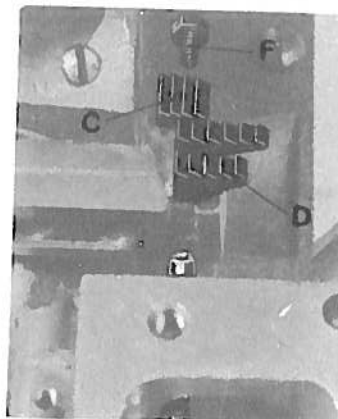
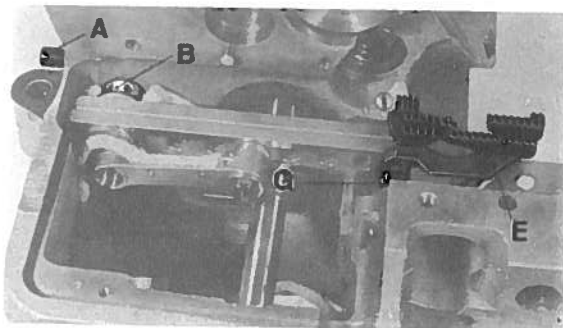

fig. 12
fig. 13
- At this point loosen screw F (fig. 12) and raise or lower feed dogs C and D so that half the depth of the teeth of the feed dog are above the top surface of the needle plate.
- Retighten screw F (fig. 12).
- Set the front feed dog E (fig. 13) in slot on differential feed lever with screw G.
- Retighten screw G. (fig. 13). It may be necessary in some cases to lower chaining feed dog C (fig. 12) for chaining off purposes.
- In the event it is found necessary to tilt feed dogs, loosen screw A (fig. 13) and turn eccentric B (fig. 13) in the direction required to get the proper setting.
- loosen screw N of lower knife holder (fig. 13)